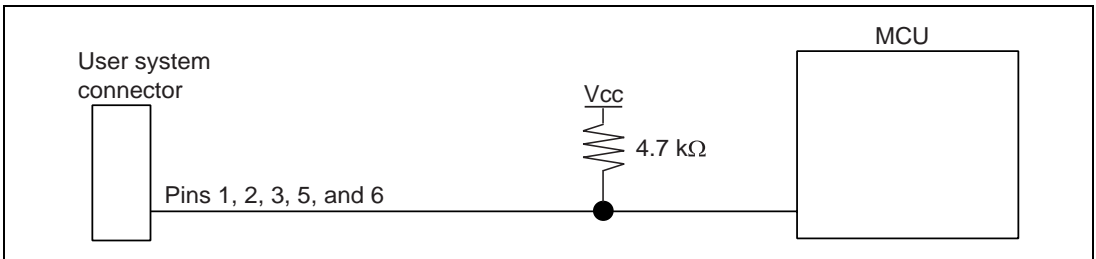

Figure 1.4 Connection of Emulator and MCU
- RES(in)# of pin 4 of the user system connector is a signal line in which the emulator outputs signals to the MCU. RES(in)# of pin 4 and the user system reset circuit must be connected to the MCU, as shown in figure 1.4. RES(out)# of pin 7 of the user system connector is a signal line in which the emulator monitors the RES# signal of the MCU. The RES# must be pulled up before it is connected to pin 7 of the user system connector.